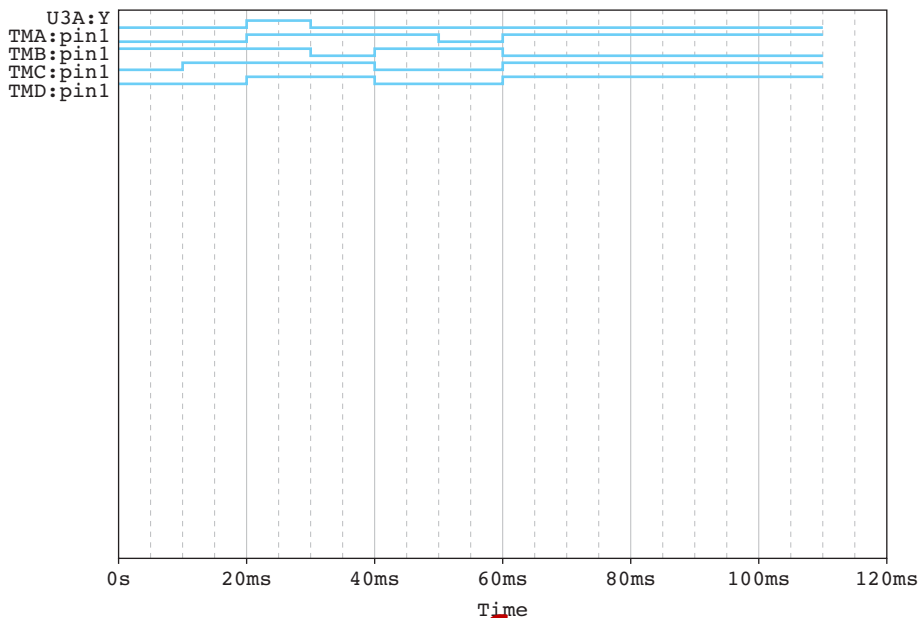

FIGURE 10.69 Digital output of Example 10.23.
3. Set the simulation analysis as time domain (see Figure 2.75), with a simulation time of at least 70 ms. The simulation output plot is shown in Figure 10.69.
4. TMA, TMB, TMC, and TMD are the input sources into the digital circuit. Use the reference in Table 10.34 and compare it to Figure 10.69. The result shows that there is only one member elected, which is the third vote.